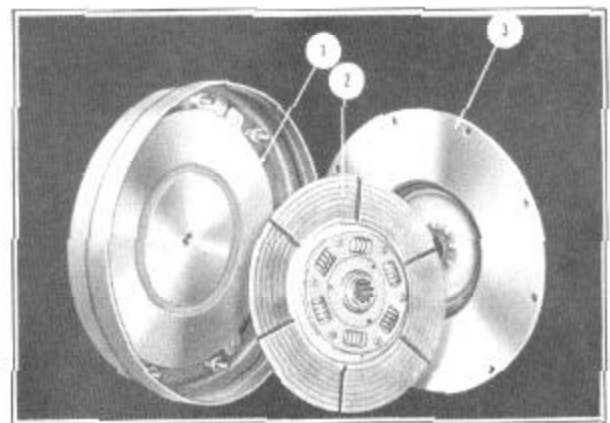

FIGURE 5
The direct drive clutch assembly is an integral part of the converter assembly and consists of a friction member (2), Figure 5, connected to the transmission mainshaft, a hydraulically-operated pressure plate (1), and a backing plate (3), items (1) and (3) being connected to the converter housing. The converter housing, in turn, is connected to the drive plate (Flywheel) and the drive plate is connected to the engine crankshaft. In direct drive, oil pressure is supplied to the clutch pressure plate piston, moving the pressure plate in contact with the friction member and forcing it against the backing plate, thus locking the three members together. As the friction member is splined directly to the transmission mainshaft, this shaft must then turn at engine speed. This connection produces a direct power flow from the engine to the rear wheels, bypassing the torque converter and the planetary gear system.